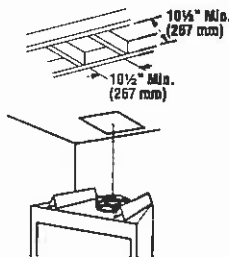

FIGURE 14
A. Frame ceiling opening - Use a plumb line from the ceiling above the appliance to locate center of the vertical run. Cut and/or frame an opening, 10 1/2" x 10 1/2" (267 mm x 267 mm) inside dimensions, about this center mark (**Figure 14**).